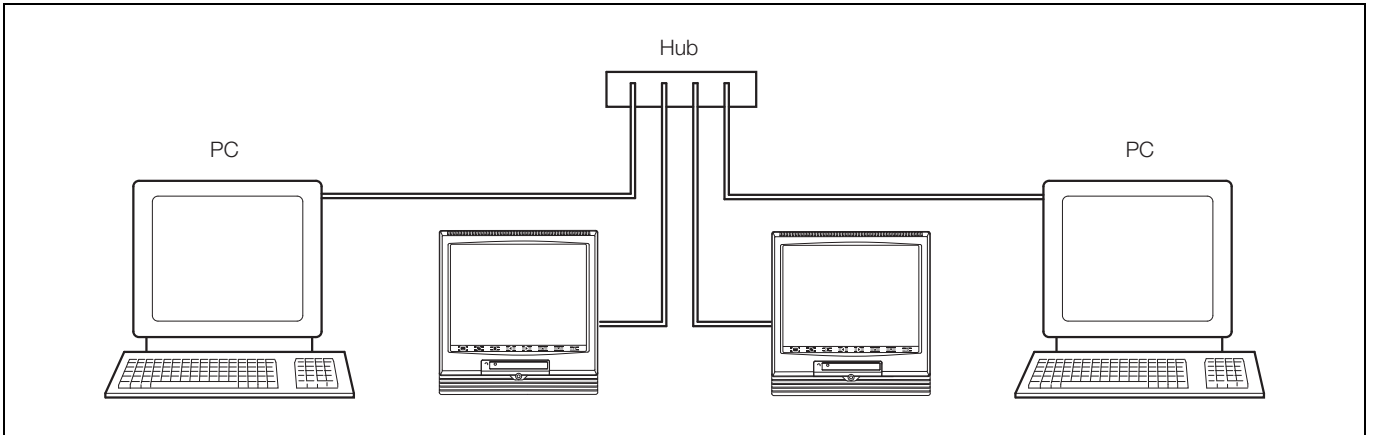

Fig. 7.18 Connection to a Network Hub
- Connection to a network hub – see Fig. 7.18